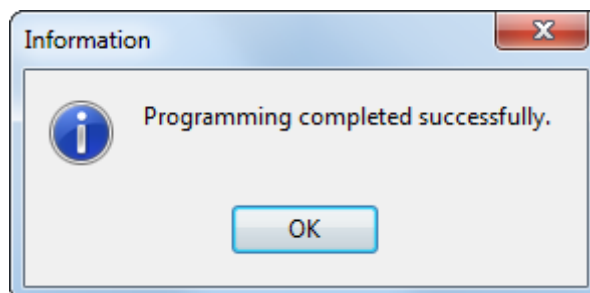

Fig. 22 Finish upload.
- Press: **OK** to finish upload (Fig. 22).